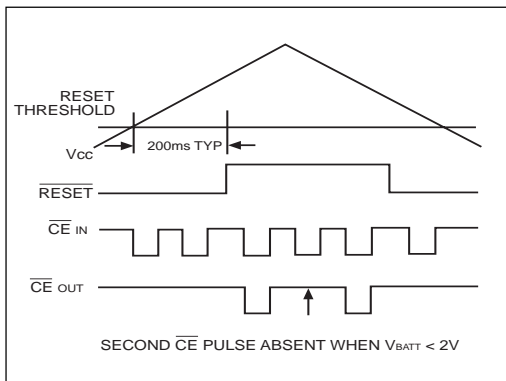

Figure 11. Backup-Battery Monitor Timing Diagram
The **SP791** low-battery voltage function monitors VBATT. Low-battery detection of $2.0V \pm 0.15V$ is monitored only during the reset-timeout period (200ms) that occurs either after a normal power-up sequence or after the **MR** reset input has been returned to its high state. If the battery voltage is below 2.0V, the second CE pulse is inhibited after reset timeout. If the battery voltage is above 2.0V, all CE pulses are allowed through the CE gate after the reset timeout period. To use this function, after the 200ms reset delay, write 00 (HEX) to a location using the first CE pulse, and write FF (HEX) to the same location using the second CE pulse following **RESET** going inactive on power-up. The contents of the memory then indicates a good battery (FF) or a low battery (00), Figure 11.